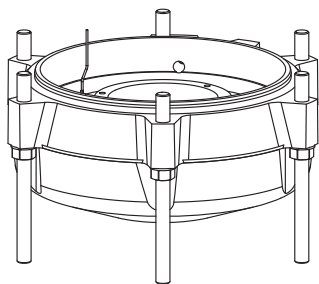

Figure 29: Mounting of wear plate (J 205, J 405)
9.3 Wear plate on J 205 and J 405 (Figure 29)